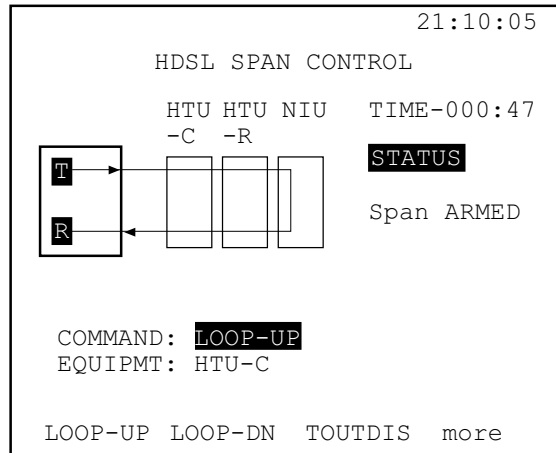

Figure 40 HDSL Span Control
1. Select MAIN MENU > LPBK & SPAN CONTROL > HDSL SPAN CONTROL and the screen depicted in Figure 40 appears.
- The network labeled boxes are: HTU-C, HTU-R, and NIU. When looping up a network element, the graphic updates. For example, Figure 40 shows a loopback at the NIU.